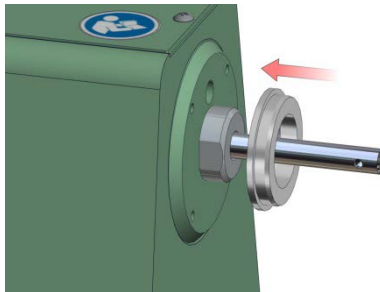

Figure 4.8.3
3. Slide the Mounting Ring (Item 7 Figure 7.4) over the existing Spindle Guide with the flat edge of the ring flush to the Universal Strength Machine Base. See Figure 4.8.3 below.